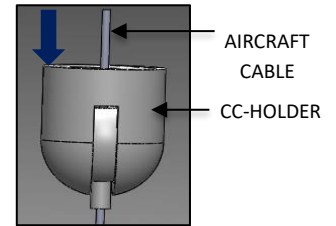

FIG. 21 - SS ROPE CABLE
- Feed the AIRCRAFT CABLE through the CC-HOLDER. Adjust the AIRCRAFT CABLE to the desired length and place it aside as shown in FIG. 21.